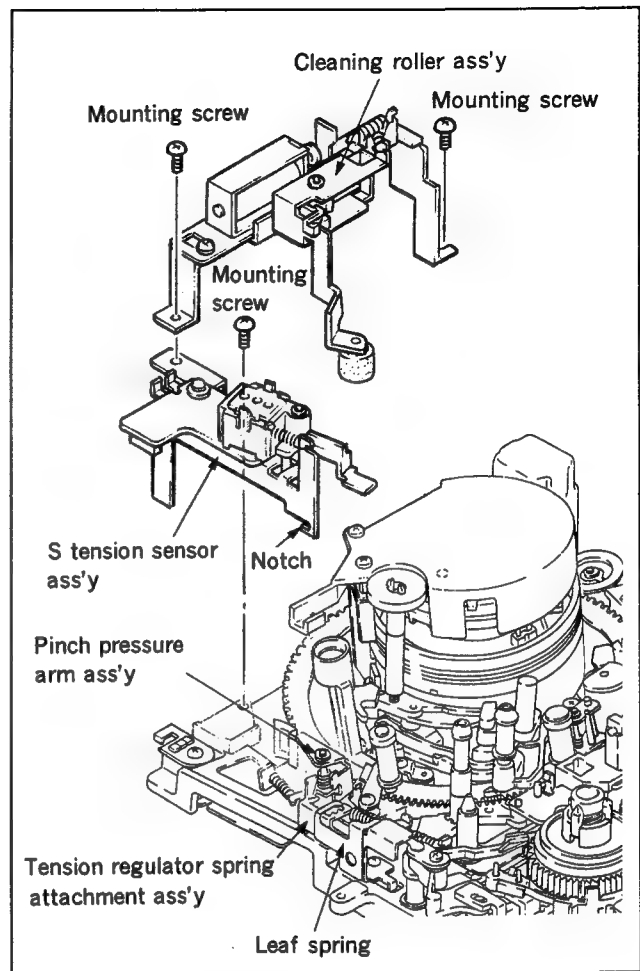

Fig. 4-16-2 Removing the cleaning roller ass'y and the S. tension sensor ass'y
1. Cleaning roller ass'y removal (Fig. 4-16-2)
2. S tension sensor ass'y removal (Fig. 4-16-2)